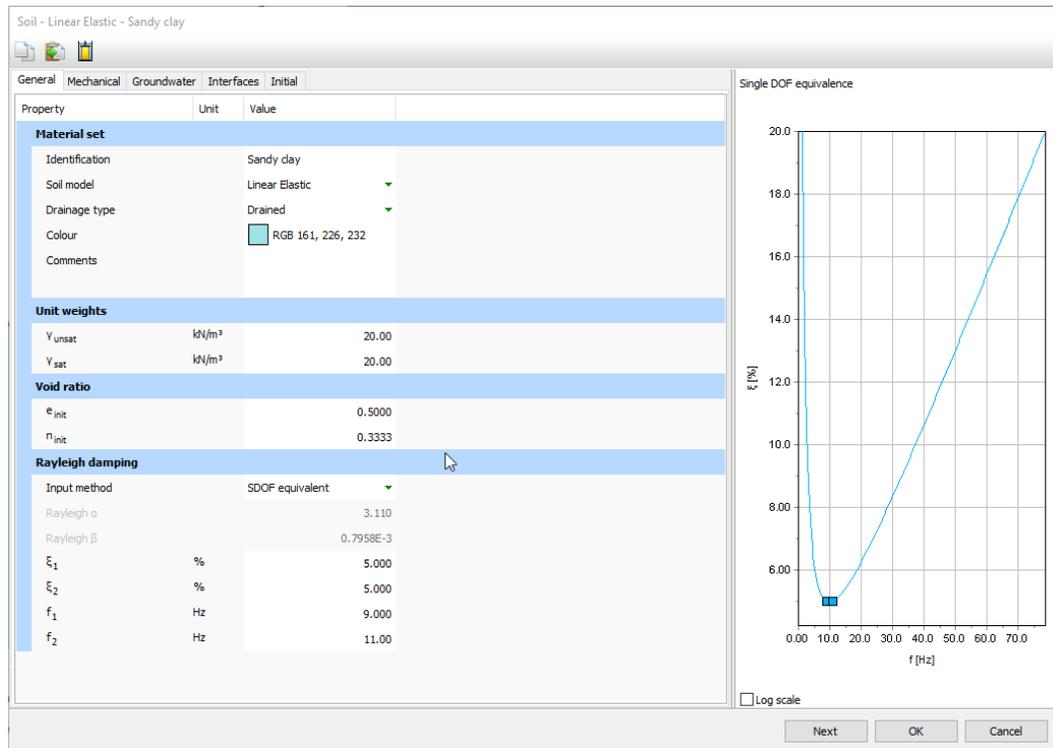

Figure 125: Input of Rayleigh damping
3. In the **General** tabsheet under **Rayleigh damping** select as Input method the **SDOF equivalent** option (See Figure 125 (on page 154)).